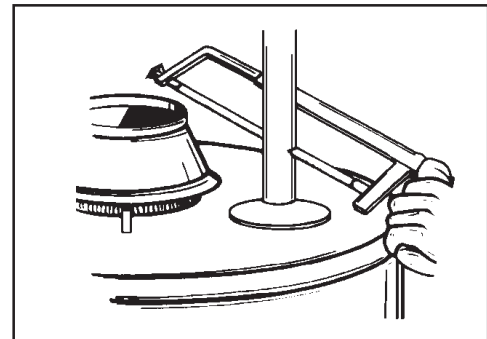

FIGURE 7.
- ⑤ Disconnect the vent pipe from the draft hood where they connect to the water heater. In most installations the vent pipe can be lifted off after any screw or other attached devices are removed. Dispose of the draft hood. The new water heater has the draft hood which must be used for proper operation.
- ⑥ If you have copper piping to the water heater, the two copper water pipes can be cut with a hacksaw approximately four inches away from where they connect to the water heater. This will avoid cutting off pipes too short. Additional cuts can be made later if necessary. Disconnect the temperature-pressure relief valve drain line. When the water heater is drained, disconnect the hose from the drain valve. Close the drain valve. The water heater is now completely disconnected and ready to be removed, see Figure 7.